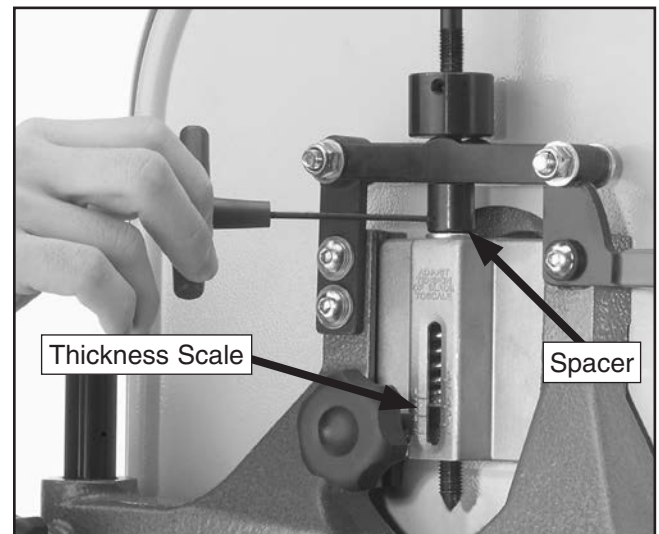

Figure 40. Tensioner adjustment.
4. Remove set screw in spacer indicated in **Figure 40**, and rotate spacer up 5-6 turns.
6. Thread spacer down until it lightly contacts top of sliding bracket. Move spacer back up shaft about 1-2 turns to leave a small space. Replace set screw in spacer and tighten (see **Figure 40**).